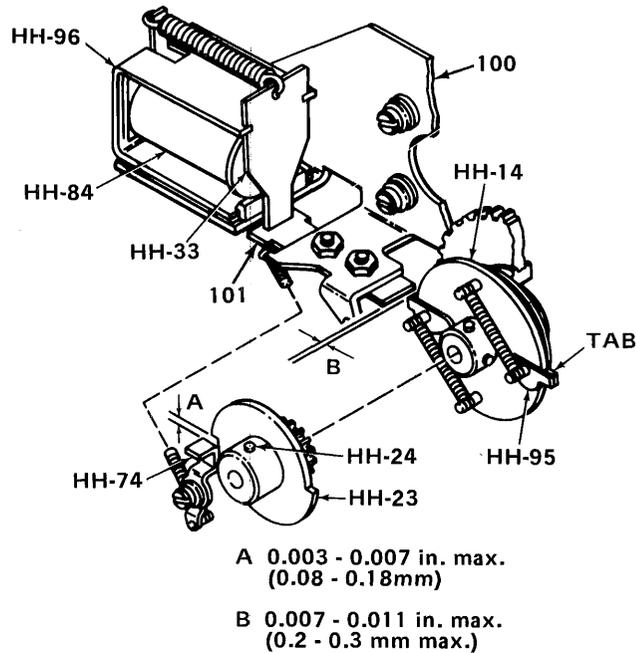

Figure 5-13. TWO ADJUSTMENTS, GEAR WITH STOP CAM (HH-23) AND INSIDE CAM (HH-14)
- A. Gear With Stop Cam (HH-23) and Back Stopper (HH-74) (Refer to Figure 8-11 (HH) and Fig. 5-13).
It is at this point, when the shaft is released, that adjustment must be made to the gear with stop cam (HH-23) to prevent counter-movement of paper. (Refer to Figure 5-13).
- B. Clutch, Inner Cam (HH-14) - Clutch Slide Pawl (101) (Refer to Figure 5-13 and 8-11)
1. To adjust proper distance of clutch slide pawl (101) to hold raised tab on paper feed clutch, inner cam (HH-14) prior to line feed release, perform the following steps: